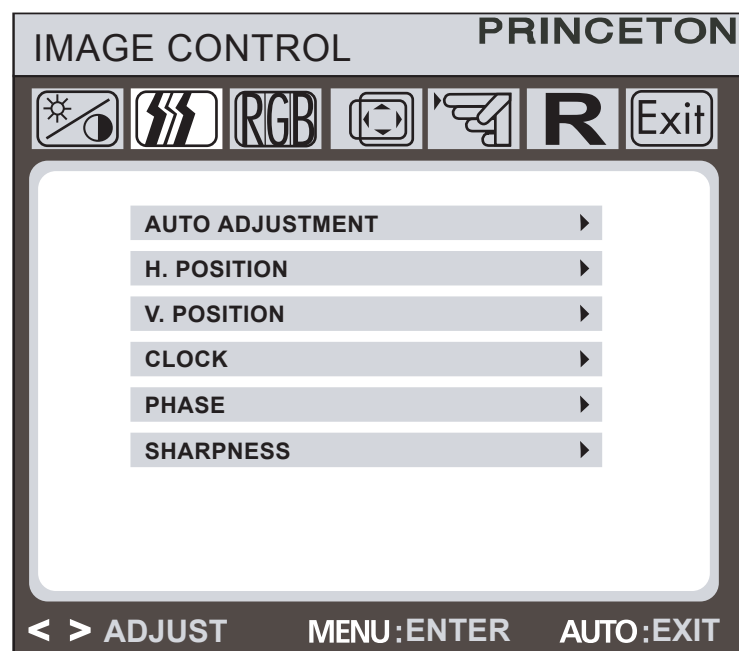

**Figure 4.** Monitor features
1. First start your PC and then turn on your monitor using the power switch (③ in fig. 4). The status indicator (④ in fig. 4) should light up blue.
You can adjust the image settings (such as brightness, contrast, image position, phase, etc.) manually or by using the LCD monitor’s automatic image adjustment feature. This will adjust the image parameters to their optimal settings for the current graphics mode. Press **AUTO** (⑥ in fig. 4) to launch the automatic adjustment. The process will take a short while until completed.
You can adjust brightness and contrast directly by pressing the < button (① in fig. 4) while the OSD menu is not displayed. Press the > button (② in fig. 4) to increase the contrast/ brightness or the < buttons (① in fig. 4) to decrease it.
You can adjust the volume directly by pressing button > (② in fig. 4) when the OSD menu is not displayed on screen. You can then change the volume by pressing the buttons < or > (① and ② in fig. 4).
To lock and unlock the OSD menu, hold down the button combination < (① in fig. 4) and **MENU** (⑤ in fig. 4) until a corresponding message is displayed.
Press the **MENU** button (⑤ in fig. 4) to display the OSD menu on the screen.
1. There are a total of 5 OSD submenus divided by categories. Select the desired submenu by pressing the OSD button < or > (① and ② in fig. 4; see section “OSD Menu Functions”).
2. Press the OSD button **MENU** (⑤ in fig. 4) to activate the selected function or associated submenu.
3. If you selected a submenu, now select the sub-function you want using the < or > OSD buttons(① and ② in fig. 4).
4. Set the desired value using the OSD buttons < or >(① and ② in fig. 4).
6. The OSD menu automatically disappears if no changes are made for more than 25 seconds (default setting). The current settings will be saved. You can close it manually by pressing the button **AUTO** (⑥ in fig. 4) button.
**Brightness:** Adjusts brightness by using the buttons < or > (① and ② in fig. 4).
**Contrast:** Adjusts screen contrast by using the buttons < or > (① and ② in fig. 4).
**Auto Adjustment:** Automatically selects the optimal settings for image parameters (image position, phase, etc.) by using the button **MENU** (⑤ in fig. 4).
This menu lets you select a preset color temperature (**9300 K**, **6500 K**) by pressing the OSD buttons < or > (① and ② in fig. 4). Changes to the color temperature take immediate effect on screen. If you wish to set individual color values, select the **Custom Color** option. Then press the MENU button (⑤ in fig. 4) to select the red, green and blue settings and set the desired value using the OSD buttons < or > (① and ② in fig. 4). The current settings are automatically saved when you return to the previous level or exit the OSD menu.